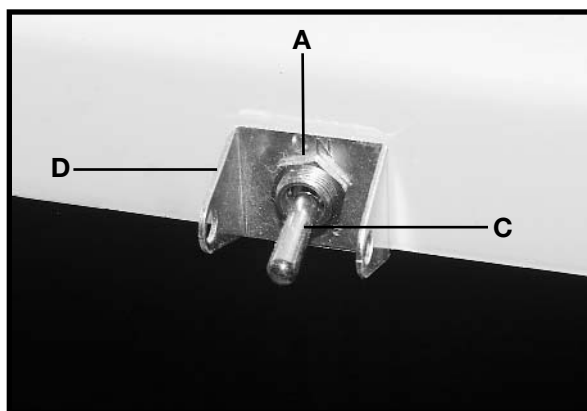

Fig. 6
4. Insert the switch through the hole in the side of the top shelf of the stand. Place the switch (C) Fig. 6 in the down or "off" position.
5. Place the switch bracket (D) Fig. 6 on the switch with the key of switch bracket engaged with the keyway. Fasten switch with hex nut (A) (removed in **STEP 2**). **NOTE:** Tie the excess wire from the motor to the switch and position it out of the way.